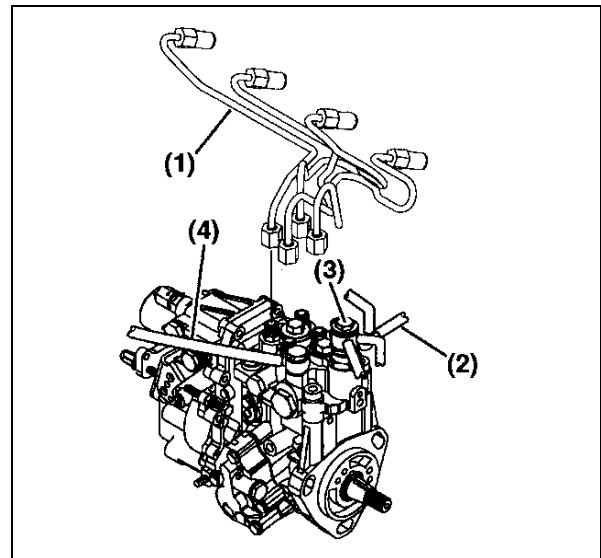
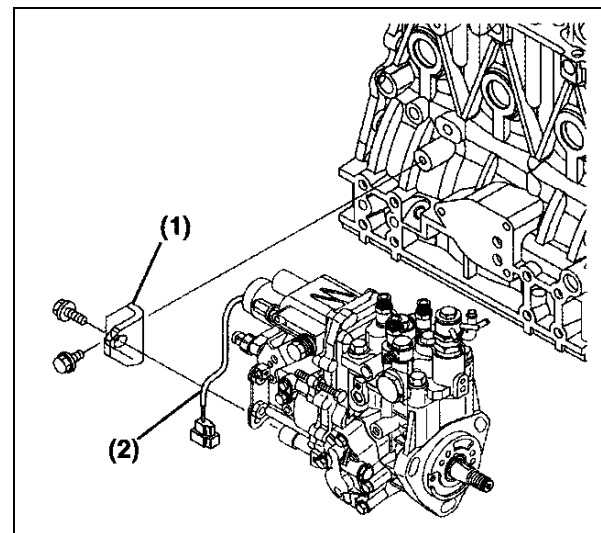

Figure 2
Figure 3
- (3) Close any fuel valves in the fuel supply line.
- (4) Place a drain pan under the fuel injection pump to catch any spillage.
- (5) Remove the high-pressure fuel injection lines as an assembly (Figure 2, (1)).
- (7) Finish loosening all the fuel line nuts and remove the high-pressure fuel lines as an assembly being careful not to bend any of the fuel lines. Be sure to protect the fuel system from contamination by covering all open connections.
- (8) Disconnect the coolant lines from the cold start device (Figure 2, (3)) on the fuel injection pump. Plug the open ends of the lines to minimize leakage and prevent contamination.
- (9) Disconnect the fuel return lines from the fuel return fitting (Figure 2, (2)). Plug the open ends of the lines to minimize leakage and prevent contamination.
- (10) Remove the fuel supply line (Figure 2, (4)). Plug the open end of the line to minimize leakage and prevent contamination.
- (11) Remove the throttle cable from the fuel injection pump.
- (12) Separate the stop solenoid wiring connector (Figure 3, (2)).
- (13) Remove the rear fuel injection pump bracket(s) (Figure 3, (1)) from the fuel injection pump.